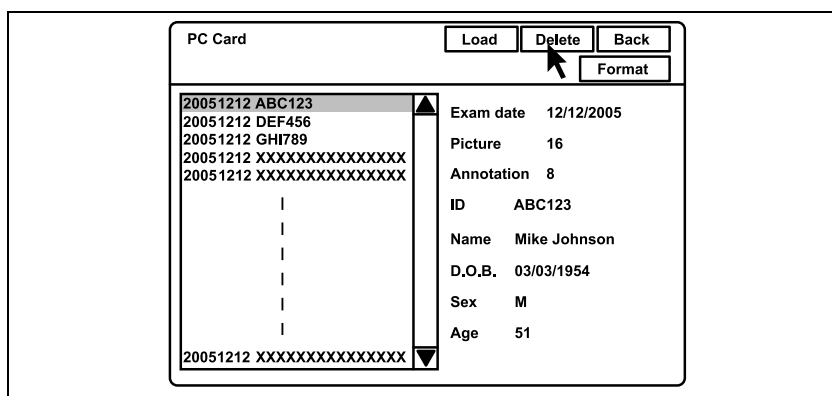

Figure 5.68
2. Click the image folder to be deleted. The patient data is displayed on the right side of the window (see Figure 5.68).